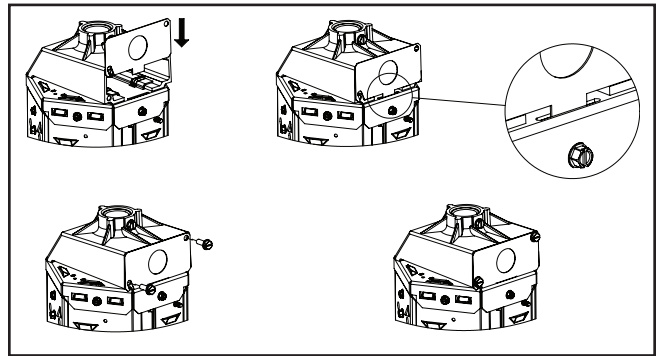

Figure 7.
7. Fasten TCB with Plate provided - (2) #10 hex head screws, torque of 15 lb-in. Ensure plate engages in slot of top enclosure. (Figure 7.)